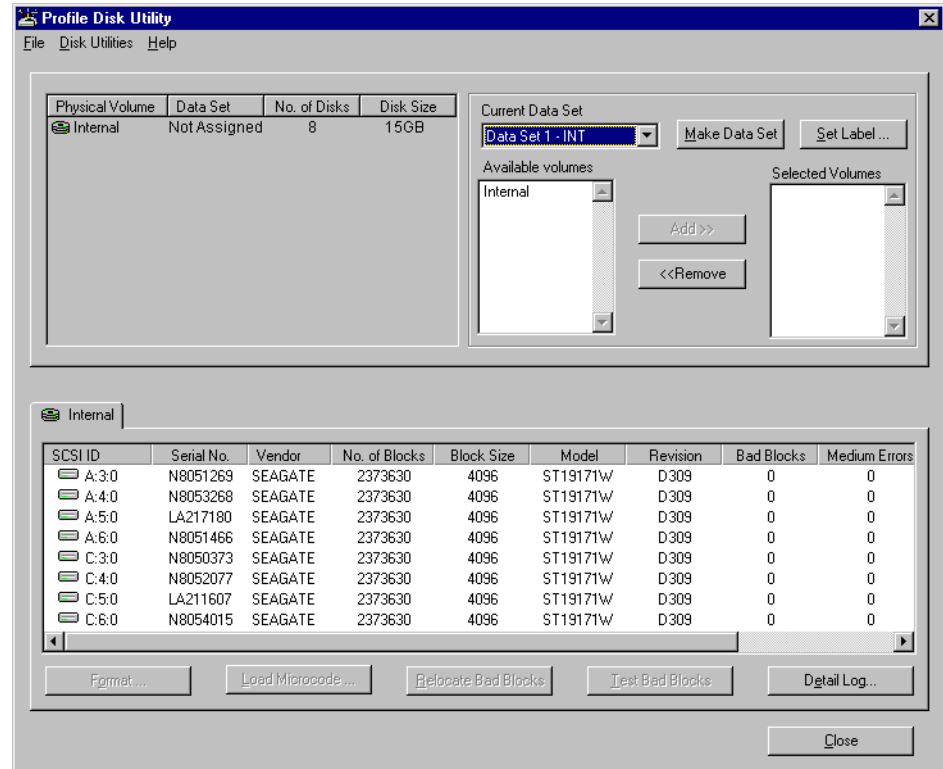

Figure 3. Profile Disk Utility
4. Choose **Start | Programs | Profile Applications | Profile Disk Utility** to open the Profile Disk Utility. The Profile Disk Utility appears as shown in Figure 3.
5. In the Profile Disk Utility, verify the Internal Physical Volume description includes the number of disks installed in the system. Also, check the SCSI IDs on the **Internal** tab, shown in Figure 3, for the following SCSI IDs: